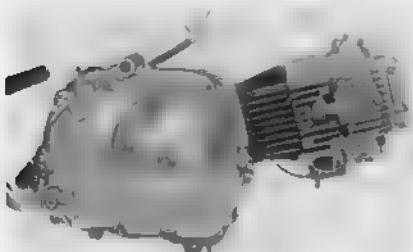

Fig. 3.7 Engine assembly (CP90)
10. The engine can be removed. (Fig. 3.7)